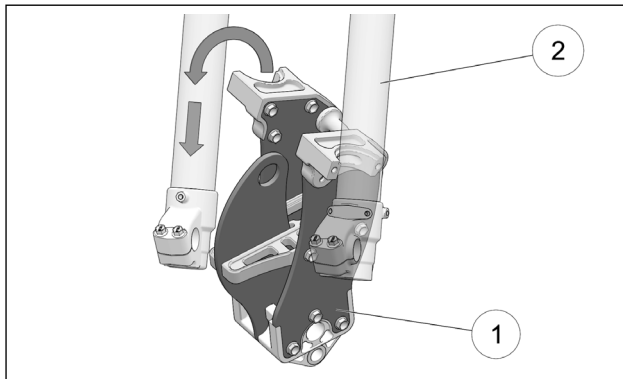

Figure 6
- Install the complete spindle (1) between the two lower fork tubes (2). Twist and slide spindle down to position it between the fork tubes. See Figure 6.